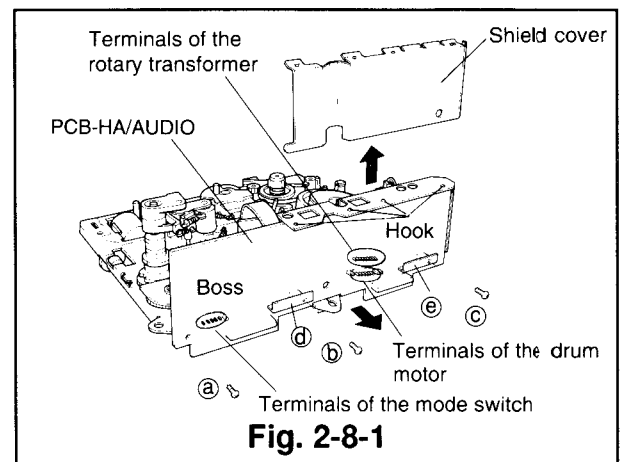

Fig. 2-8-1
- ① Unfasten the hook and raise the head amp shield cover shown in Fig. 2-8-1 to remove it.
- ② Unsolder the terminals of the mode switch, the drum motor, and the rotary transformer shown in Fig. 2-8-1.
- ⑥ Remove the three screws (a, b and c) and slowly pull the PCB-HA/AUDIO in the direction shown by the arrows. (Refer to Fig. 2-8-1.)
- ① Insert the terminals of the mode switch, the drum motor, and the rotary transformer, and the boss, adjacent to the mode switch, in the matching holes on the PCB-HA/AUDIO and secure the PCB-HA/AUDIO with the three screws (a, b and c) in the order, b → c → a. (Refer to Fig. 2-8-1)
- ② Solder the pins mentioned in Item ①.